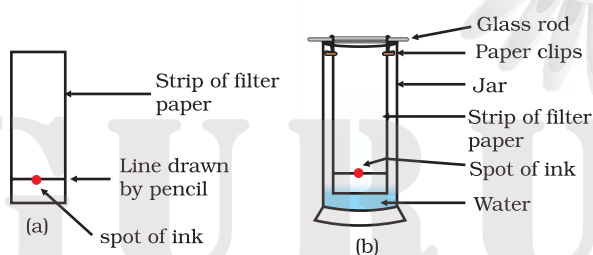

Fig. 2.8: Separation of dyes in black ink using chromatography
- Draw a line on it using a pencil, approximately 3 cm above the lower edge [Fig. 2.8 (a)].
- Lower the filter paper into a jar/glass/beaker/test tube containing water so that the drop of ink on the paper is just above the water level, as shown in Fig. 2.8(b) and leave it undisturbed.